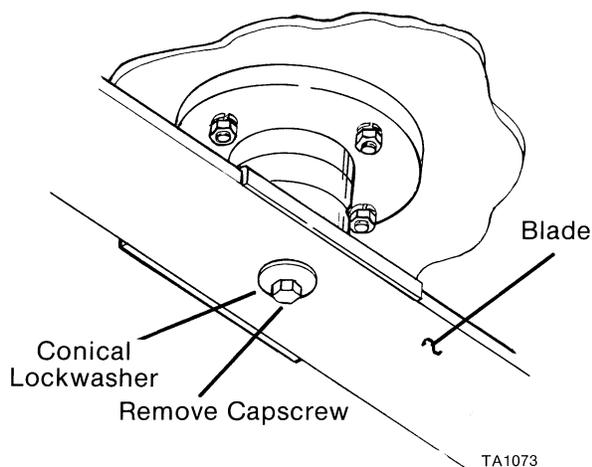

FIG. 9A
- b. Remove capscrew and conical lockwasher that secure each blade to spindle assembly (Fig. 9A). Remove blades from spindles.